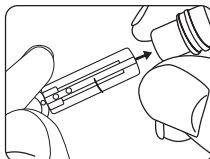

Figure 8
STEP 2: Insert a sterile lancet into the lancet holder of the lancing device and push down firmly until it is fully seated. Do not twist the lancet. *See Figure 8.*